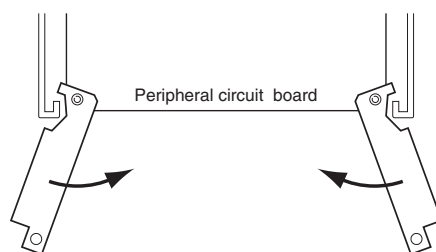

Figure 3.4.2 Installing Peripheral Circuit Board
- (1) Unfasten the screws located on the left and right sides of the front panel of the S5U1C63000H6 by turning them counterclockwise then remove the front panel.
- (2) Insert the peripheral circuit board into the slot and push it using the jig attached with the S5U1C63000H6 as shown in Figure 3.4.2.